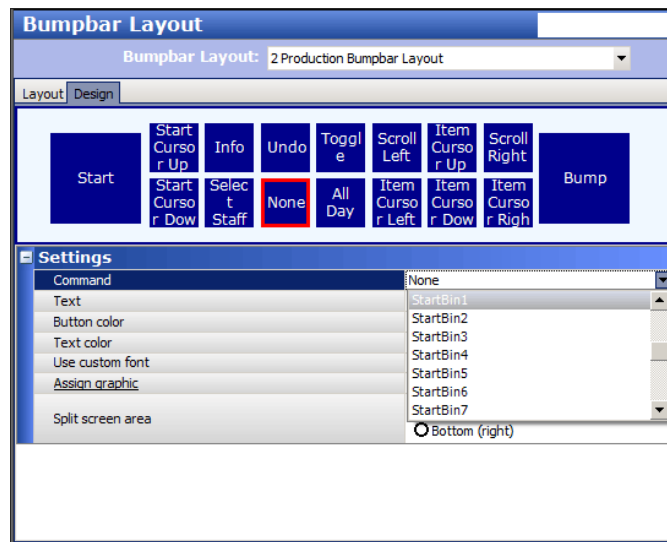

Figure 11 Bumpbar Layout Function - Design Tab
3. Select the **Design** tab (Figure 11).